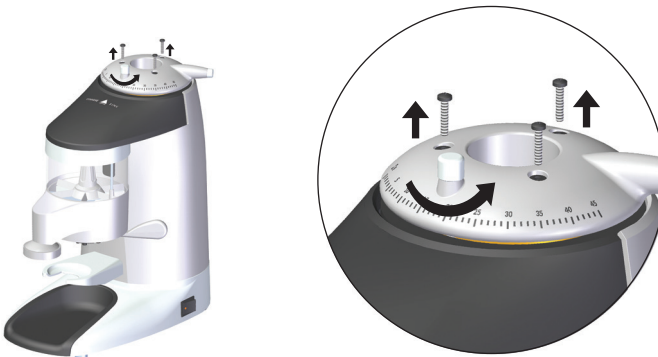

Fig. 11
For the models with micrometric *Parallel* system, before removing the grinding adjustment collar (13) rotate the grind point lock screw (7) counterclockwise to release it from a locked position (Fig. 11).
Rotate the grind regulator clockwise until it is completely unscrewed (**Fig. 11**) until the upper and lower burrs touch and can not be turned further. Clean the grind chamber and threads of the housing using a soft cloth and vacuum cleaner until all of the oils and residue has been removed.
For the models with the micrometric *Parallel* system, first make sure that the grind point lock screw (7) is lined up with the locking foot. This will ensure that the lock screw and locking foot move in conjunction with one another, and that the locking mechanism works properly (Fig. 11).
For the models with the micrometric **Parallel** system, first make sure that the grind point lock screw (7) is lined up with the locking foot. This will ensure that the lock screw and locking foot move in conjunction with one another, and that the locking mechanism works properly (Fig. 11).